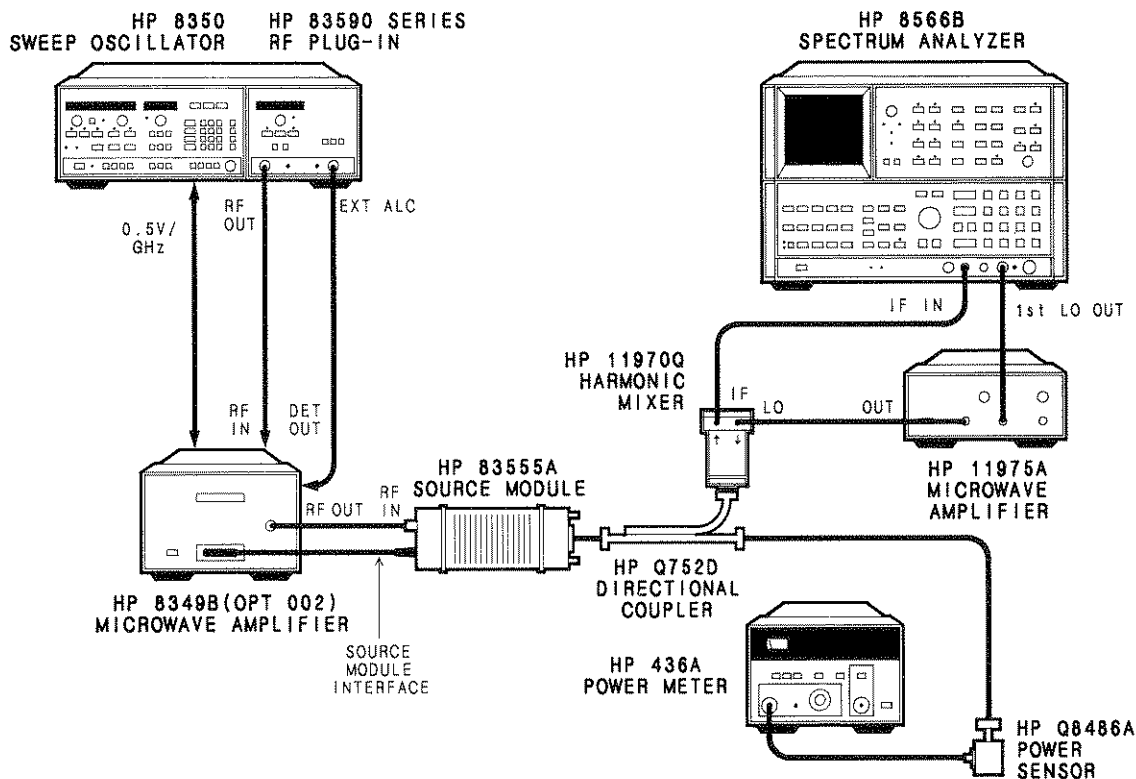

Figure 2-8. Spurious Signals Test Setup
1. Connect the equipment as shown in Figure 2-8.
Because the test configuration in Figure 2-8 specifies that the external mixer be connected to the coupled arm of a 20 dB directional coupler, the coupled power must also be taken into account when calculating reference level offset. The new equation is as follows: